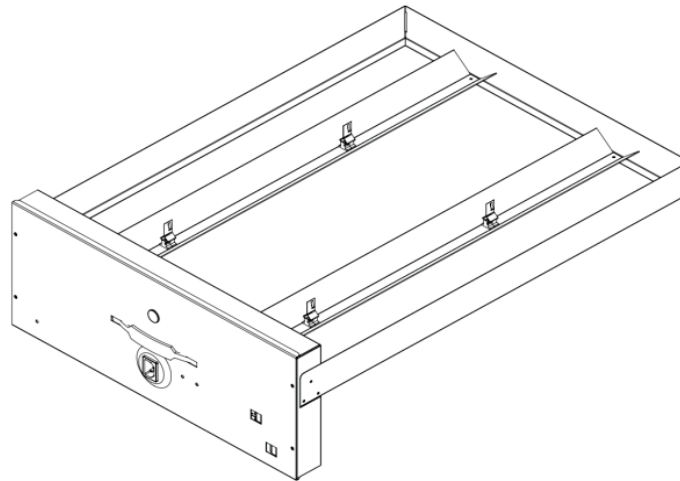

Figure 1. Control Box Assembly
- Step 2.** Remove the control box assembly from the system. See Figure 1.